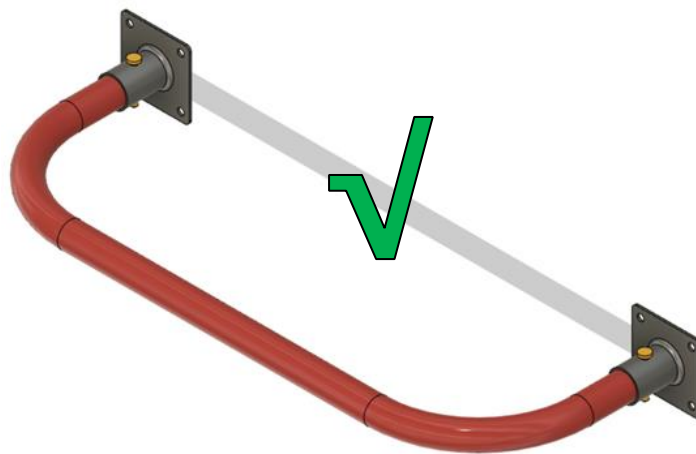

Figure 13
F. Bumpers mounted with quick release pins are allowed with sleeved tubing. Refer to Figure 13